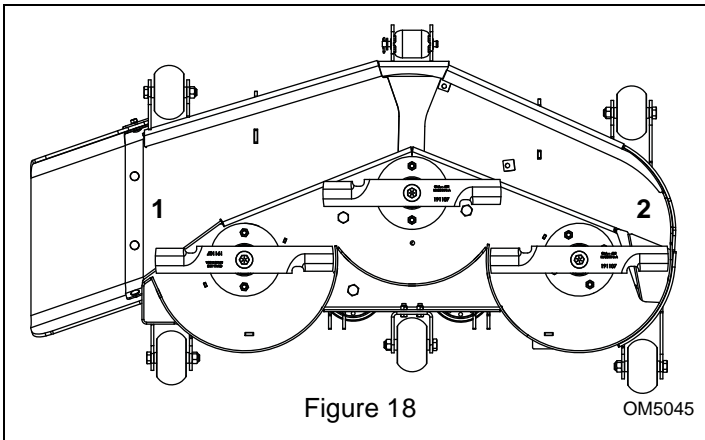

Figure 18
5. Set both of the outside blades to be perpendicular to the mower as shown in figure 18.